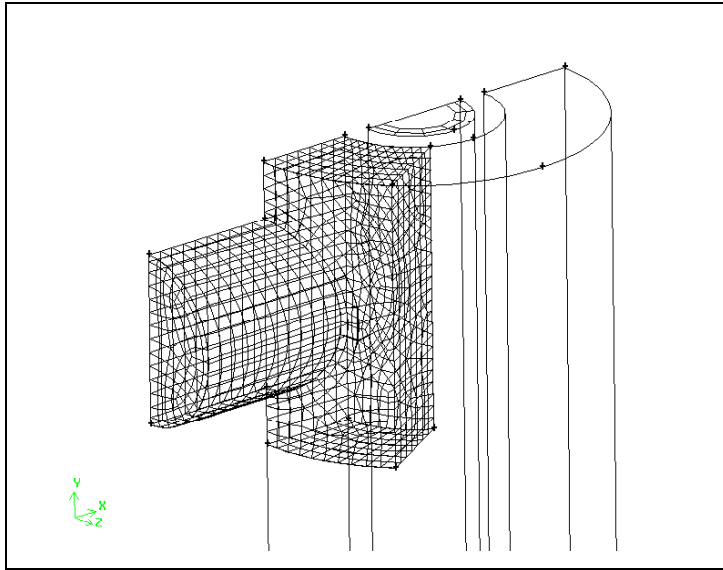

Figure 7-33: Mesh for volume C
*This accepts the volume you selected as the one to be meshed. It also accepts the source faces (the faces whose surface mesh is to be swept through the volume to form volume elements) GAMBIT has chosen for the Cooper meshing scheme and starts the meshing. If you need to modify or confirm the source faces, either pick faces from the graphics window or modify the selection of source faces by means of the **Sources** face text box. The mesh for the volume is shown in Figure 7-33.*